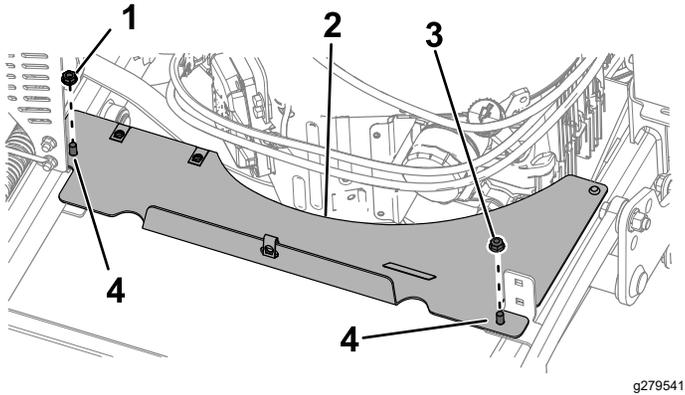

Figure 32
- Bolt—5/16 x 1 inch (2)
- Remove the hex nut (5/16 inch) nut (5/16 inch) securing the guard extension to the carriage bolts (Figure 32). Remove the guard extension.
- Install the extension guard as shown in Figure 32. Torque the nuts to 20 to 25 N·m (15 to 18 ft-lb).